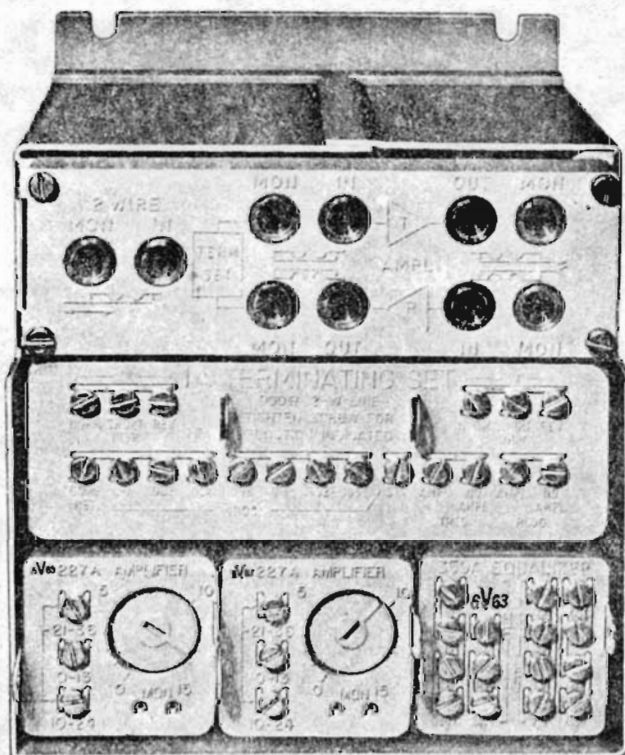

Fig. 1 - 24V4B Repeater, Front View
1.04 The 24V4B repeater mounting is described in another section. A complete 24V4B repeater consists of the mounting, two 227-type amplifiers or 849-type networks, a 1-type terminating set, and a 359-type equalizer, all plugged into the mounting unit as shown in Fig. 1. A jack field is included as a permanent part of the repeater mounting.
2.03 Front panel screw-type adjustments are shown in Fig. 1.